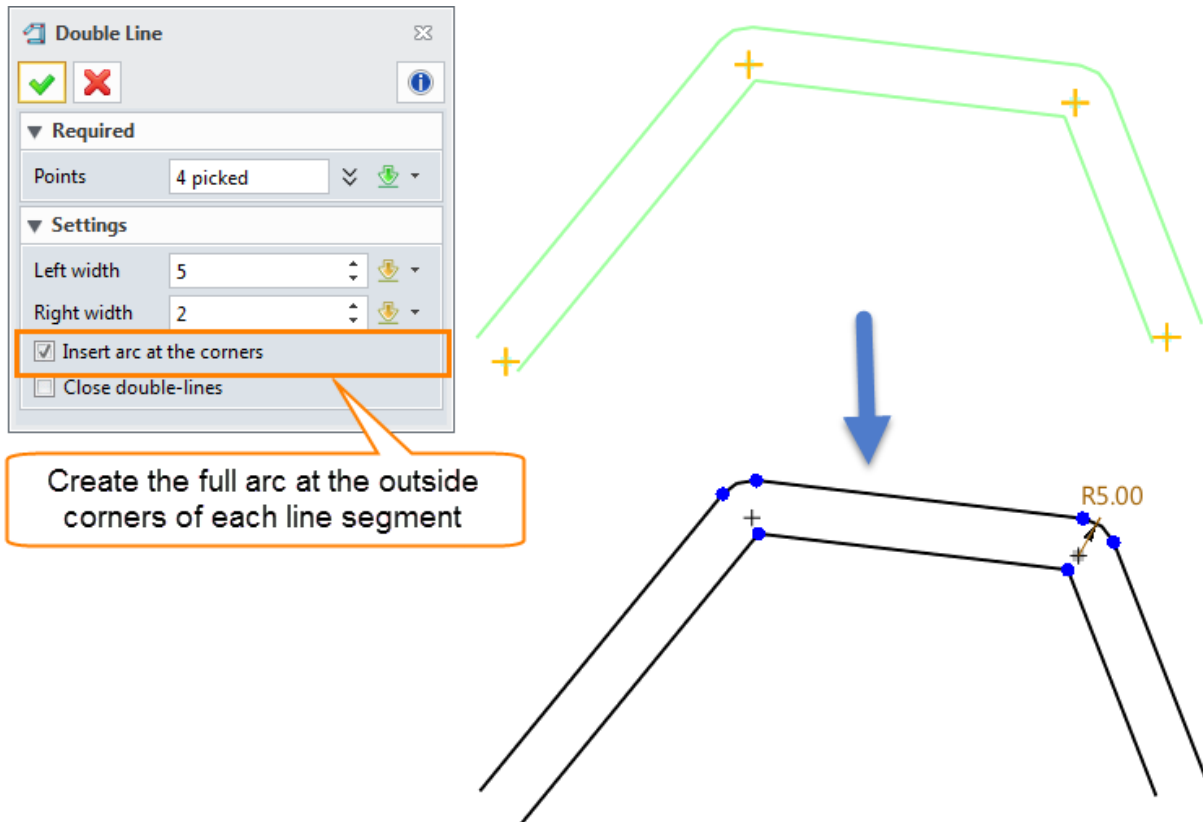

Figure 19 Double Lines with Arc
**STEP 03** If you want to add the arc, please check the option “Insert arc at the corners”. Then the full arc at the outside is created. The arc radius is determined by this side with, see the Figure 19.